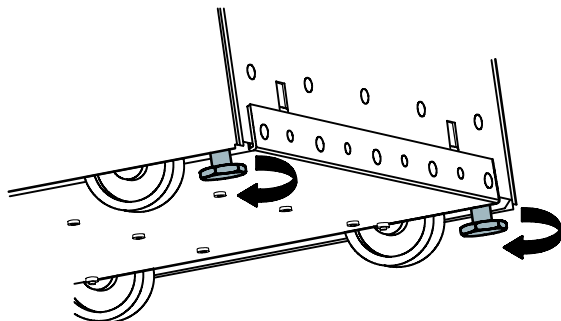

Figure 1. Lowering the Leveling Feet
2. Lower the leveling feet to prevent the cabinet from rolling (see Figure 1).